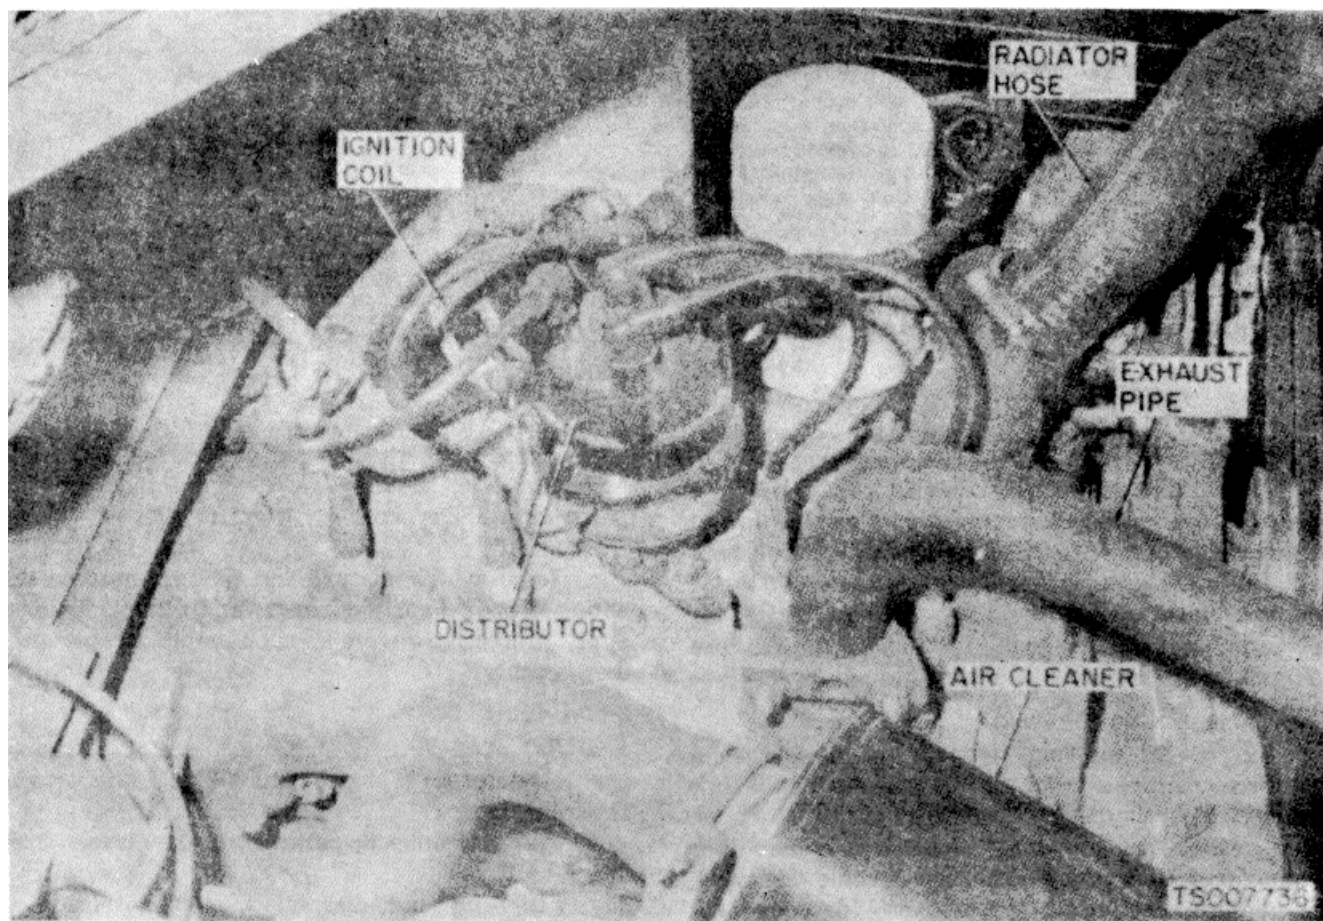
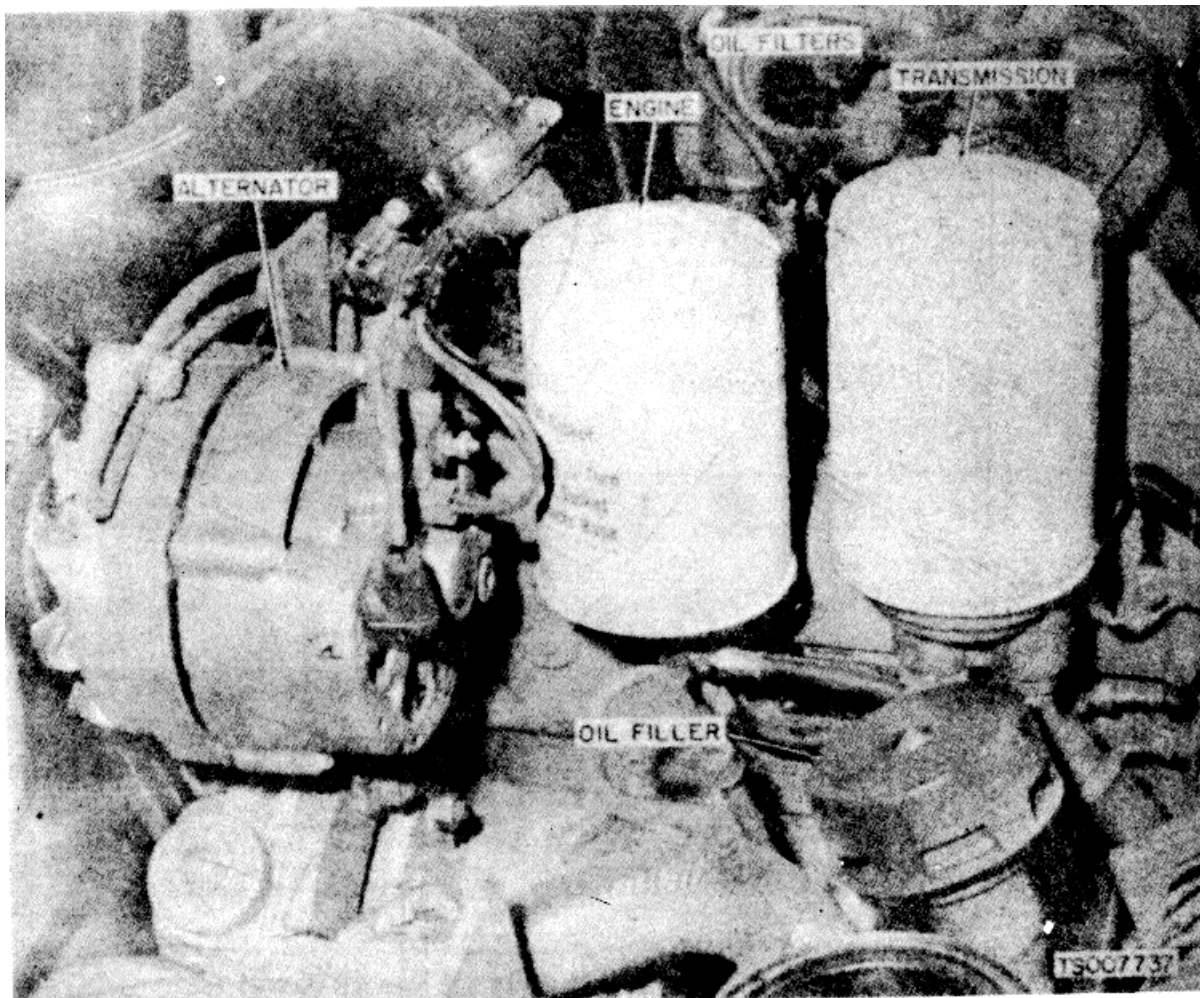

Figure 2-1. Top Front View of Engine.
Figure 2-2. Right Hand View of Engine
(1) Refer to TM 10-3930-632-12 and perform the following:
- (d) Tag and disconnect electrical leads shown in the wiring diagram in TM 10-3930-632-12 at ignition coil (fig. 2-1), alternator (fig. 2-2), starter solenoid, and starter relay.